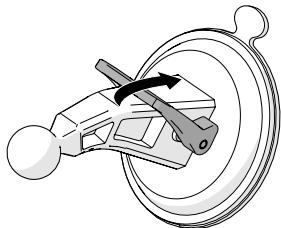

Fig. 8
- Carefully position the suction cup on the windshield and rotate the locking arm downwards to stick securely. (Fig. 8)